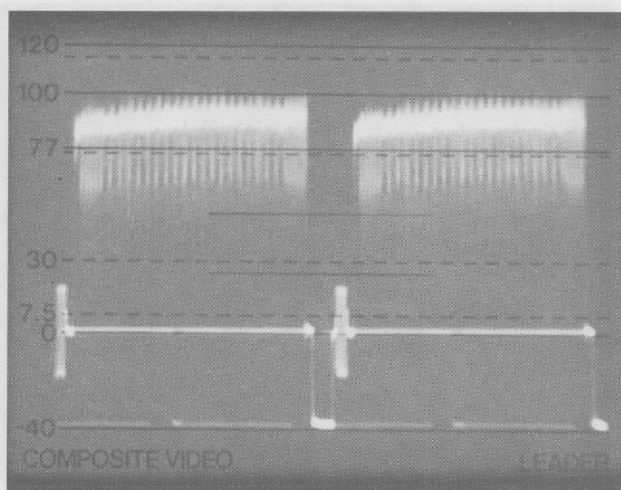

Figure 2-13. Setting peak white at 100 IRE using the white camera registration chart
7. Using automatic iris, confirm that the peak-white part of the test chart comes to 100 IRE. See Figure 2-13.